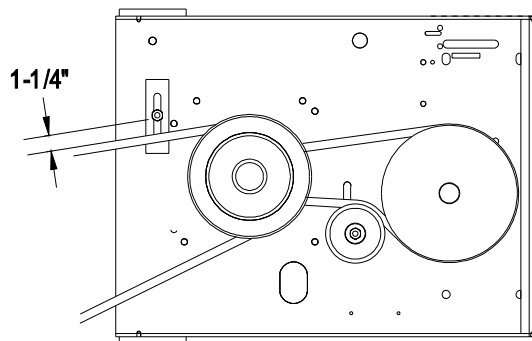

FIG. 19
- c) Check belt guide under the engine deck for proper adjustment (See Figures 19 and 20). Adjust as necessary.